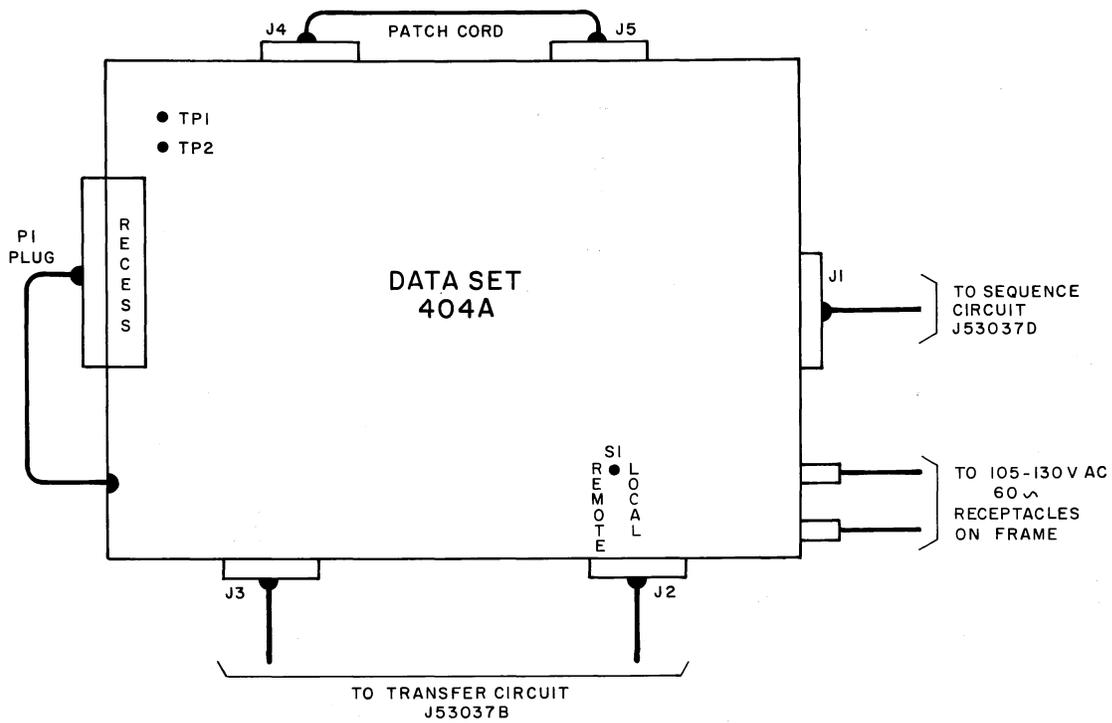

Fig. 1 - Typical Cord Arrangement for Set in Service
2.04 Fig. 1 shows a typical cord arrangement for a set in service.